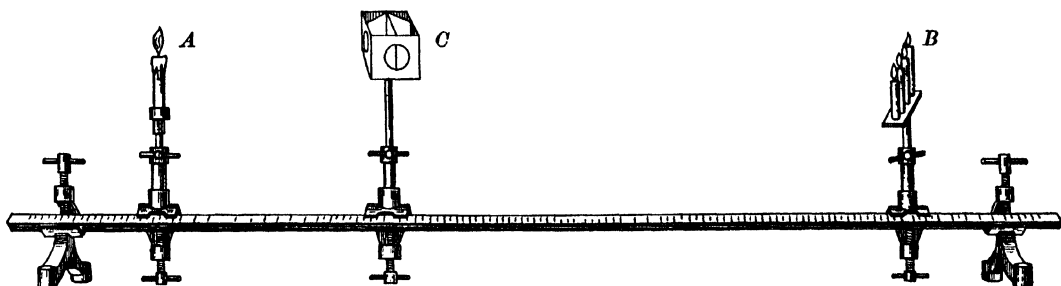

FIG 103
**I. Law of inverse squares.** (a) Light the candle at *A*, and one of the group of four candles at *B*, in Fig 103. Keep them trimmed so that they burn as nearly as possible alike with flames 3 cm. long